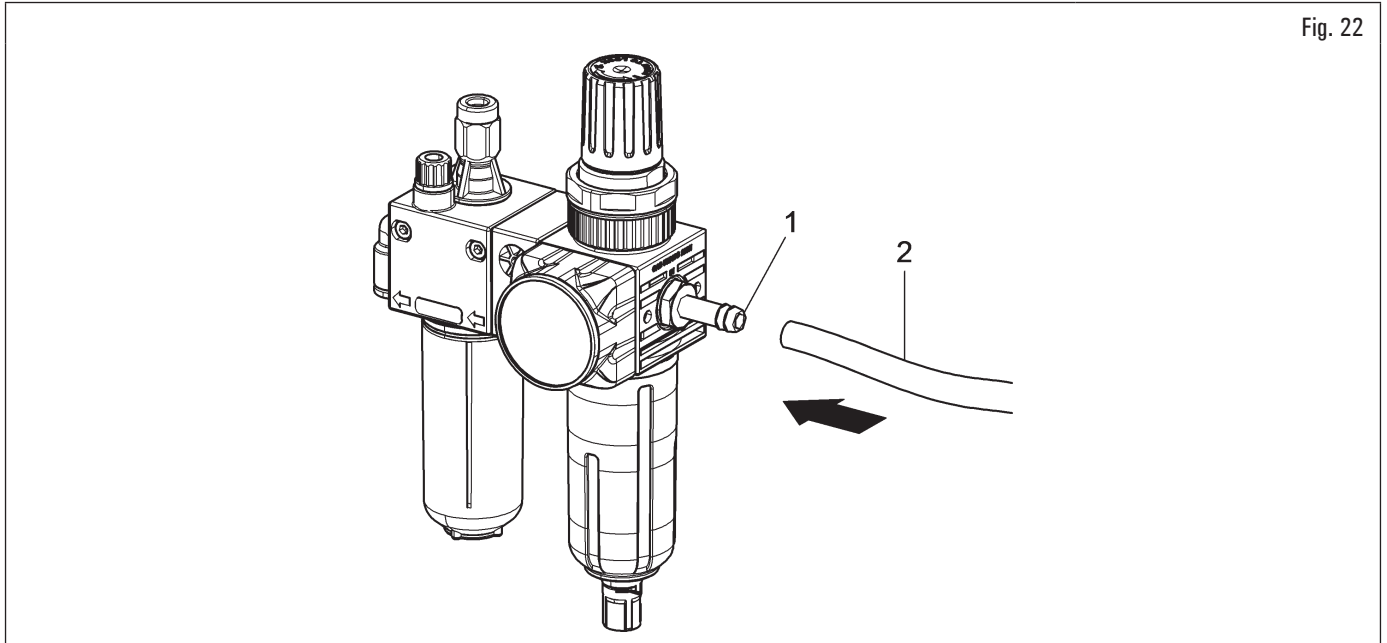

Fig. 22
Connect the mains pneumatic supply through the fitting (Fig. 22 ref. 1) placed on equipment filter assembly. The pressurised hose (Fig. 22 ref. 2) coming from the mains must have a minimum inner diameter of 10 mm (3/8") and a minimum outer diameter of 19 mm (3/4") (see Fig. 22) to have sufficient flow rate (see Fig. 22).